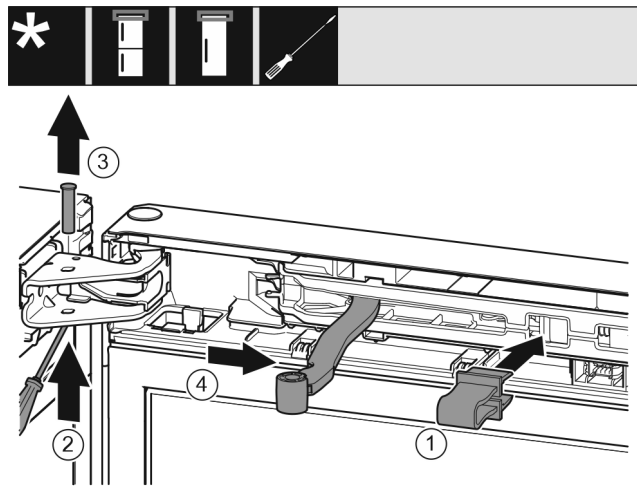

Fig. 9
- ▶ Engage the locking device in the opening. Fig. 9 (1)
- ▶ Push out the bolt with a screwdriver. Fig. 9 (2)
- ▶ Remove the bolt upwards. Fig. 9 (3)
- ▶ Turn the hinge in the direction of the door. Fig. 9 (4)